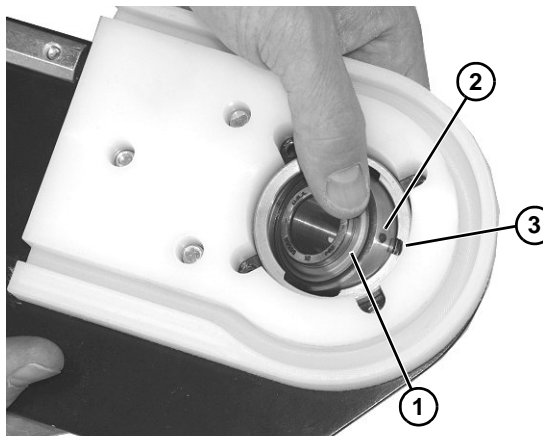

Figure 79
2. Insert bearing (**Figure 79, item 1**) into housing slot: Locate anti-rotation nub (**Figure 79, item 2**) to align with slot (**Figure 79, item 3**), and twist bearing into housing.